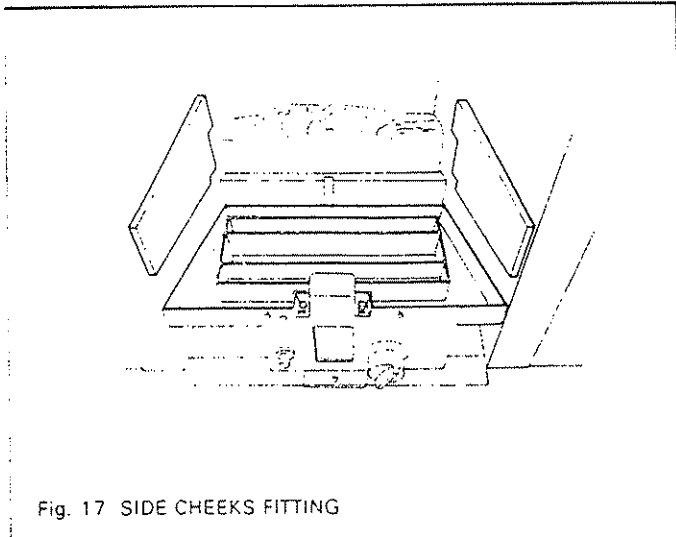

Fig. 17 SIDE CHEEKS FITTING
7.7.2 Place the left and right side cheeks in position against the sides of the convection box. The large cutout at the rear of the cheeks should locate over the step in the back brick (see fig. 17).